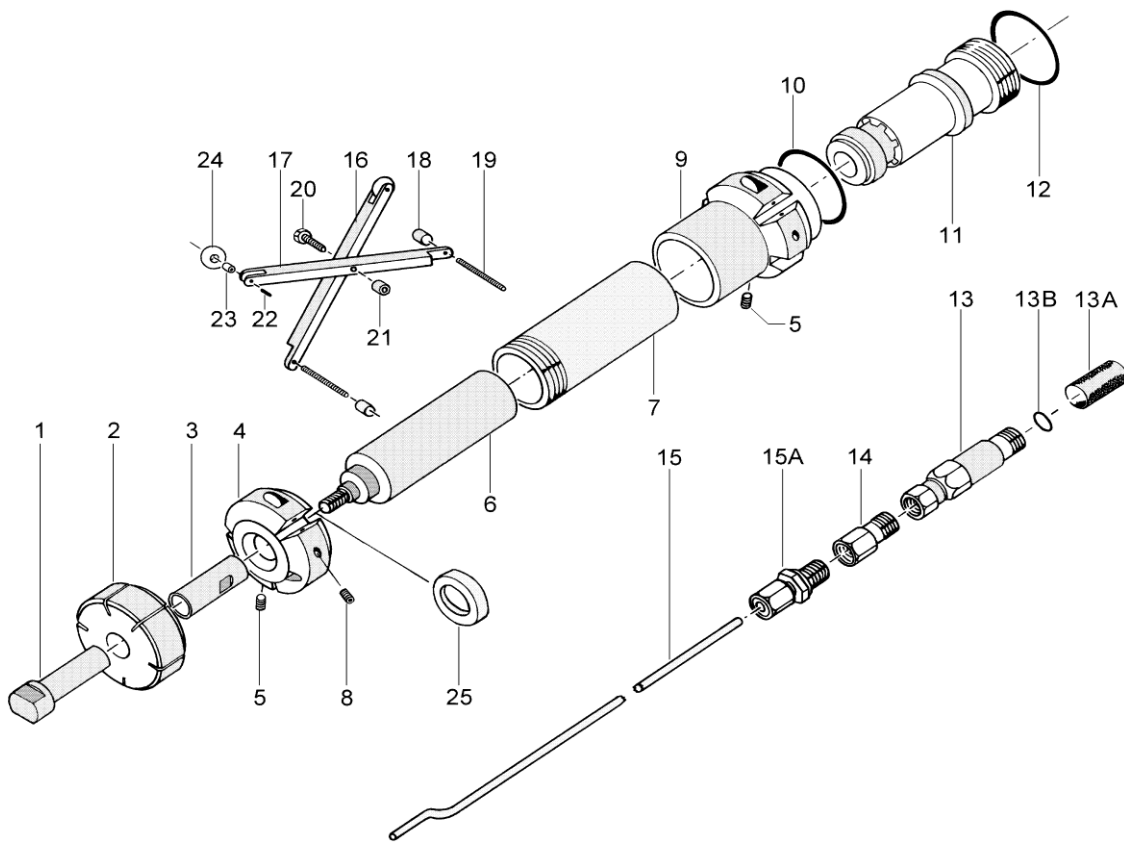

Figure 2
4.2 Remove strainer housing (Figure 2, Item 13
6.1 PIPECOATER-I Tool, less Hoses and Gun. (See Figure 2.).....71024